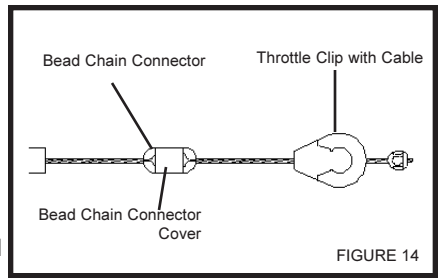

FIGURE 14
2. Slide a Bead Chain Connector Cover over the cruise cable, then attach the Bead Chain Connector to the cable. Attach the Throttle Clip with Cable to the Bead Chain Connector and slide the Connector Cover over the Bead Chain Connector. (**Figure 14**)